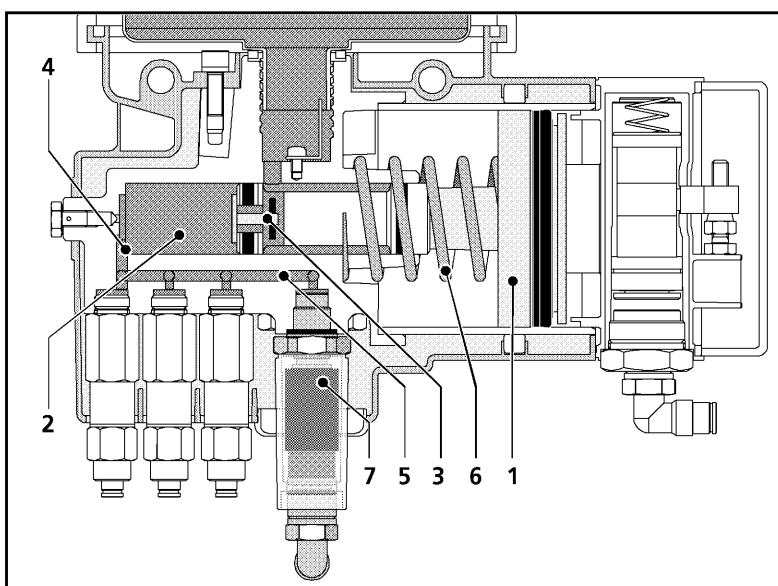

Fig. B2 The plunger pump
When the brake-counter allows air to flow from the vehicle's air tank to the space behind the air/grease piston (fig. B2), that piston (1) will be pressed sideways. The grease pressure in chamber (2) pushes valve (3) against its seating to close the way back to the grease cartridge (the check valve). Grease is pressed from chamber (2), via duct (4), to the grease channel (5) above the metering units. The metering units then simultaneously pass – at full system pressure - their respective amounts of grease through the grease lines to the grease points on the vehicle. At the end of the lubrication cycle the compressed air supply is cut-off and the pressure behind the air/grease piston (1) starts to drop. Spring (6) returns the piston to its starting position. This creates an vacuum in chamber (2), which causes the check valve (3) to open and new grease from the cartridge to fill chamber (2).